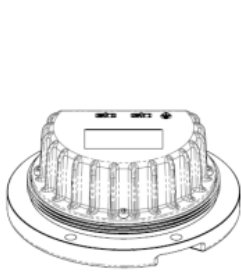
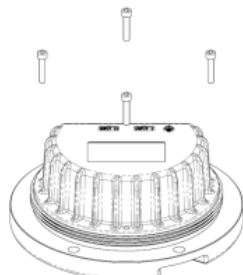

Figure 5-4
Figure 5-5
- Place the top of the lighting fixtures downwards (Figure 5-4) and disassemble 4 pieces of M5×25 socket head cap screws (Figure 5-5).